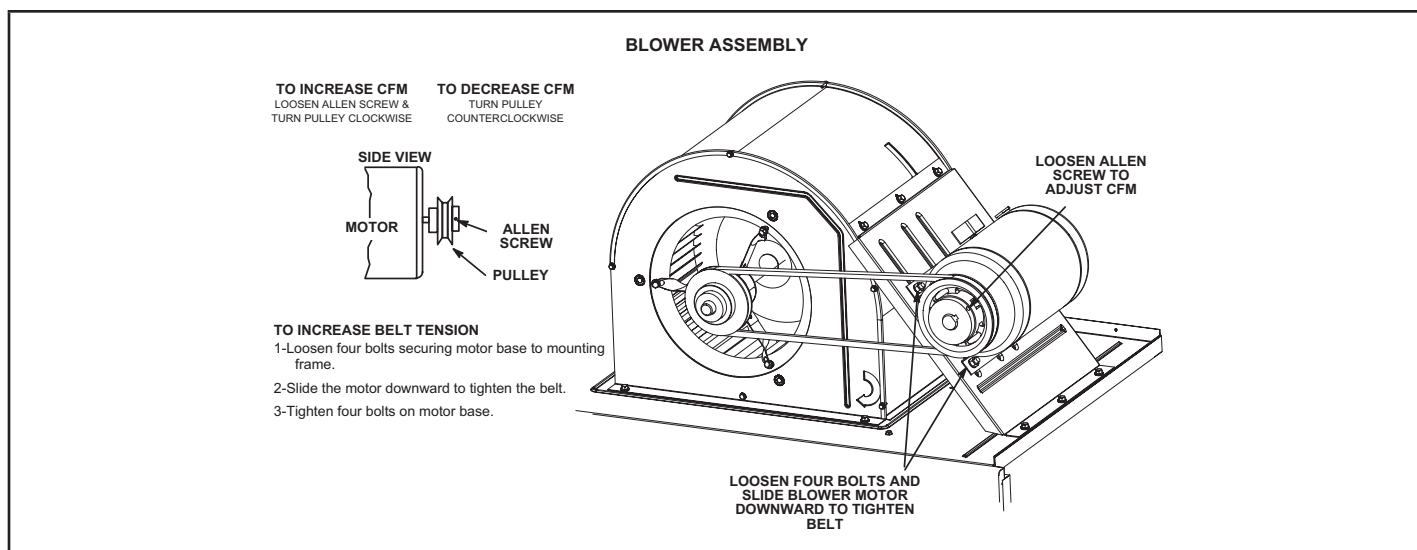

FIGURE 13
- 5 - The blower RPM can be adjusted at the motor pulley. Loosen Allen screw and turn adjustable pulley clockwise to increase CFM. Turn counterclockwise to decrease CFM. See FIGURE 13 Do not exceed minimum and maximum number of pulley turns as shown in TABLE 5.
- 1 - Loosen four bolts securing motor base to mounting frame. See FIGURE 13.